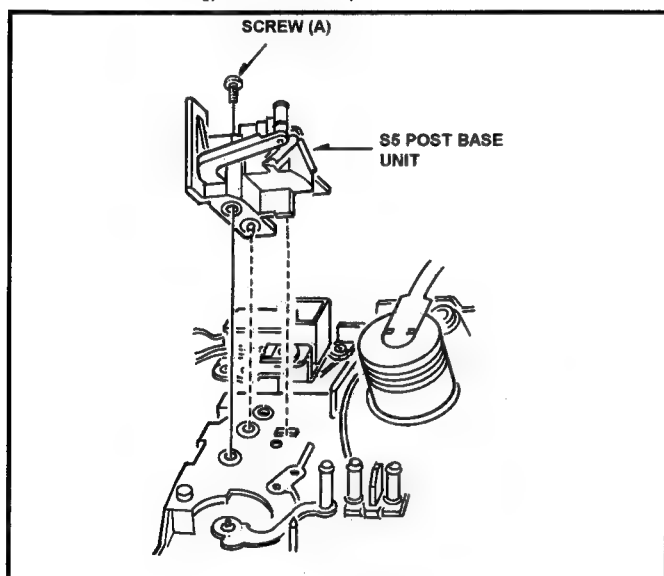

Fig.6-12-1 Removal of S5 Post Base Unit
3. Unscrew the screw (A) and remove the S5 Post Base Unit as shown in Figure 6-12-1.
1. Install the S5 post Base Unit follow the removal steps in reverse order, then be careful the S5 Post Base Unit is install to mech chassis as shown in Figure 6-12-1.
2. After installation, Post Height pre-adjustment (Refer to item 5-4) and Linearity adjustment (Refer to item 5-12 [Tape Pass Adjustment Procedure]) should be performed.